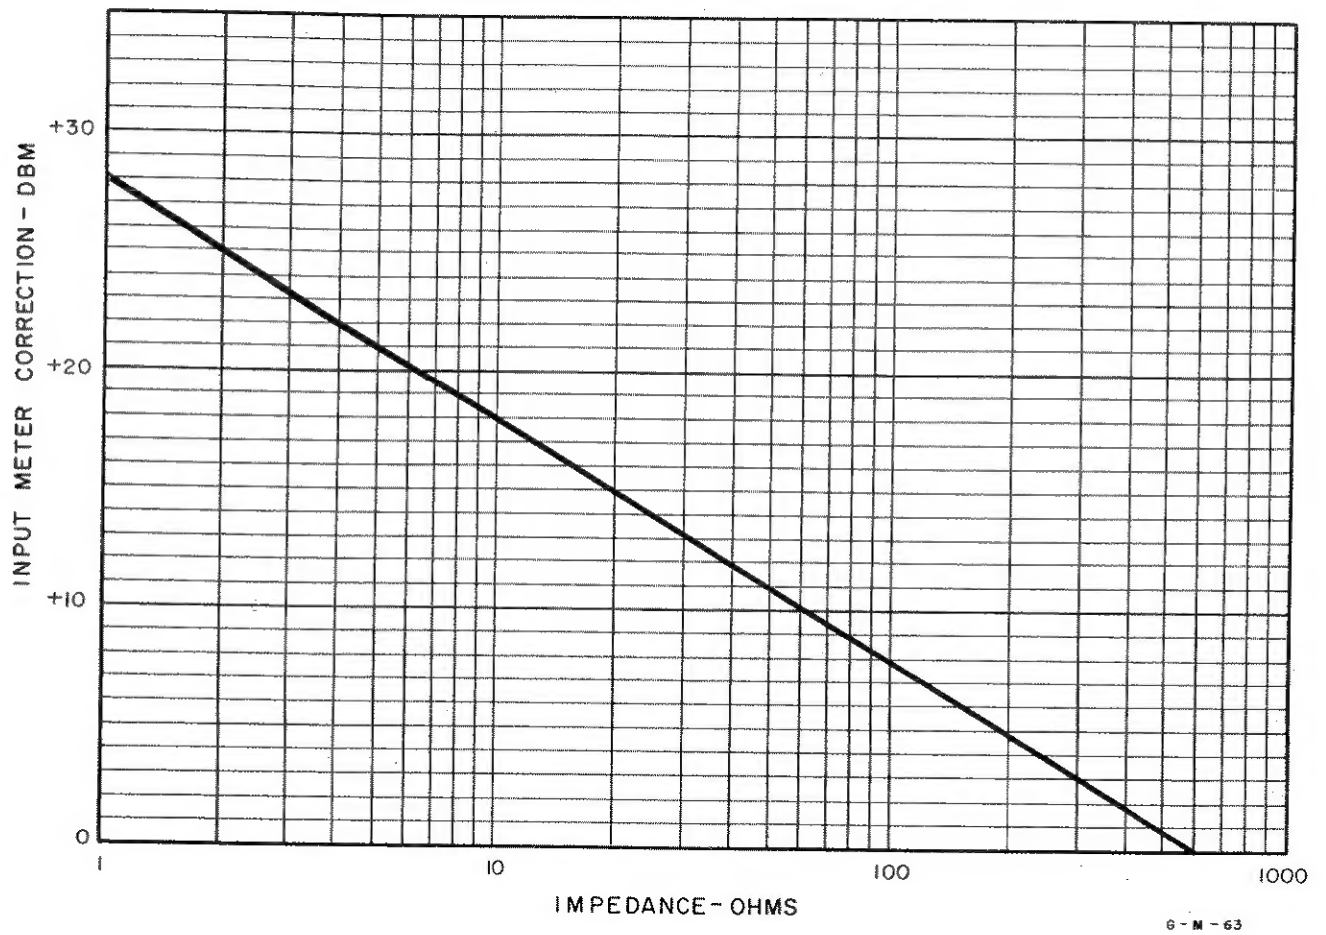

Figure 2-2. Input Level Meter Correction Curve
When making power measurements in circuits with impedances below 600 ohms, the absolute level in db above or below 1 milliwatt is equal to the level indicated on the meter plus the INPUT ATTENUATOR (DB) switch indication plus a correction factor for the circuit impedance. Figure 2-2 gives correction factors for impedances between 1 and 600 ohms.